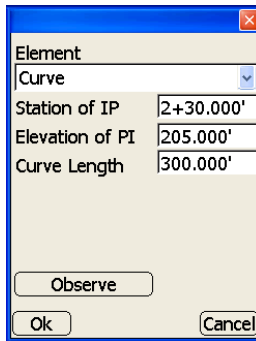

Figure 3-63. Vertical Profile Dialog Box
The **Vertical profile** dialog box creates, edits, or deletes alignment elements. After creating vertical profiles, press **Next** to continue (Figure 3-63 on page 3-42).
- Edit – on the **Vertical profile** dialog box, press **Edit** to edit the selected element. See the “Add” bullet above and Figure 3-63 on page 3-42 for details on editing the element.